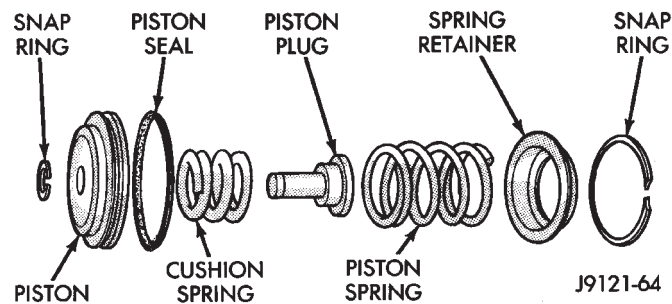

Fig. 145 Rear Servo Components
- (1) Remove small snap ring and remove plug and spring from servo piston (Fig. 145).
- (2) Remove and discard servo piston seal ring.